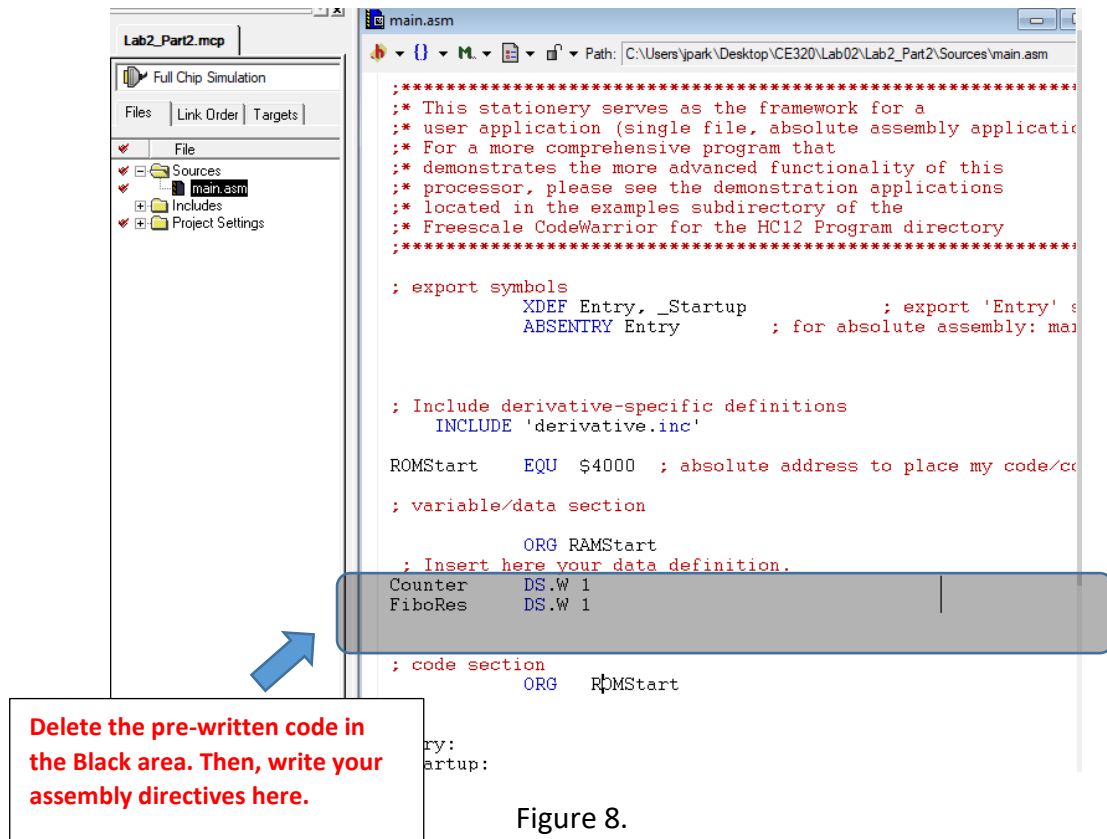

Figure 8.
- The data definitions are placed in the data declaration part in main.asm as shown in Figure 8. First, delete the prewritten sample code provided by the CodeWarrior IDE (marked with black background) in main.asm.